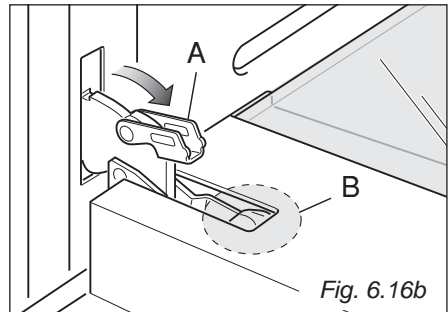
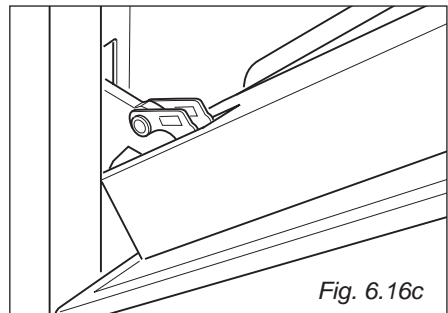

Fig. 6.16b
Fig. 6.16c
- Open the lever **A** completely on the left and right hinges (fig. 6.16b).
- Gently close the door (fig. 6.16c) until left and right hinge levers **A** are hooked to part **B** of the door (fig. 6.16b).